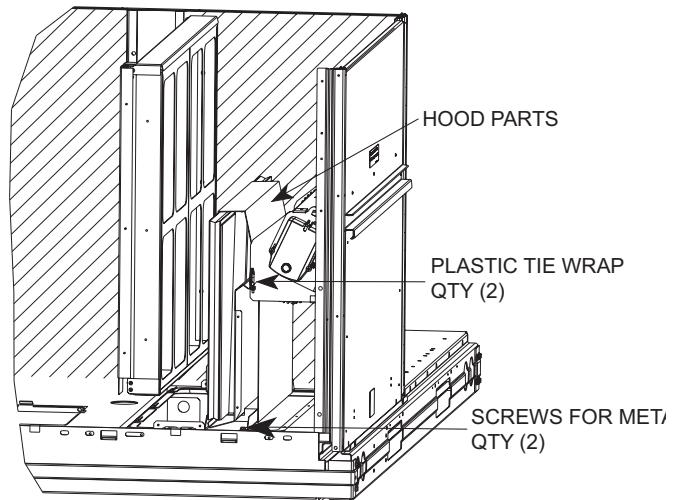

Fig. 16 — Economizer and Two-Position Damper Hood Parts Location
Locate the carton containing the outside air hood parts (see Fig. 16 on page 16). Do not remove carton until unit has been rigged and located in final position.
3. Locate the (2) screws holding the metal tray to the basepan and remove. Locate and cut the (2) plastic tie-wraps securing the assembly to the damper. (See Fig. 16.) Be careful to not damage any wiring or cut tie-wraps securing any wiring.